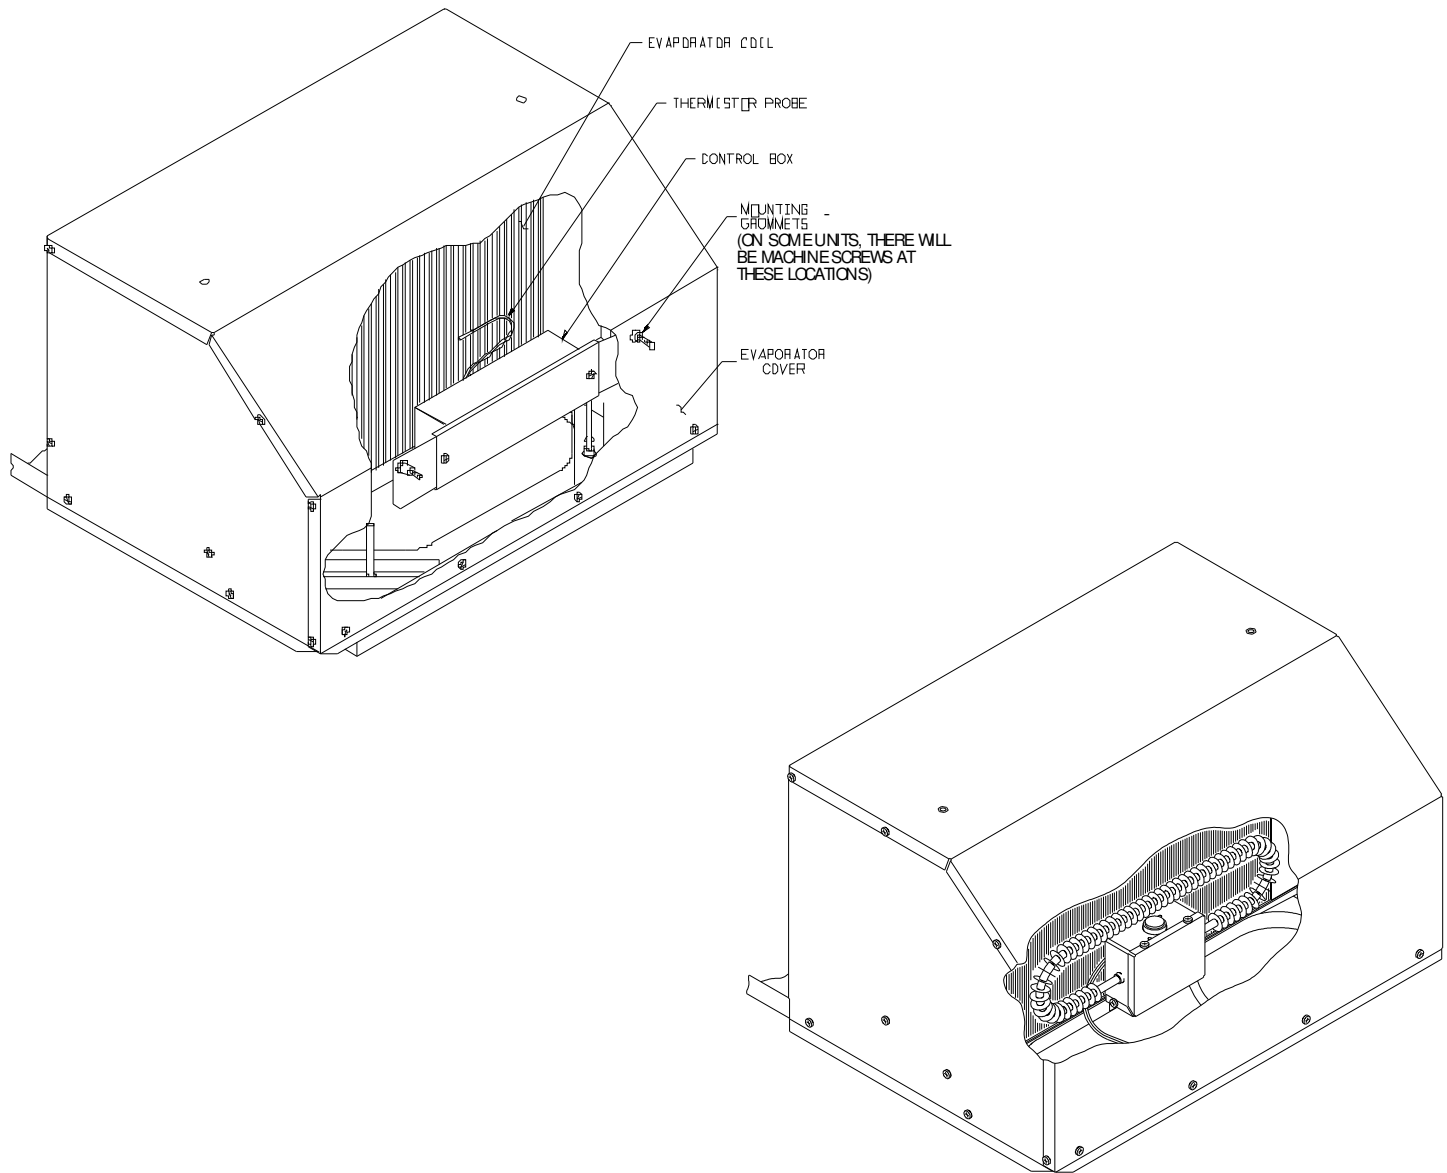
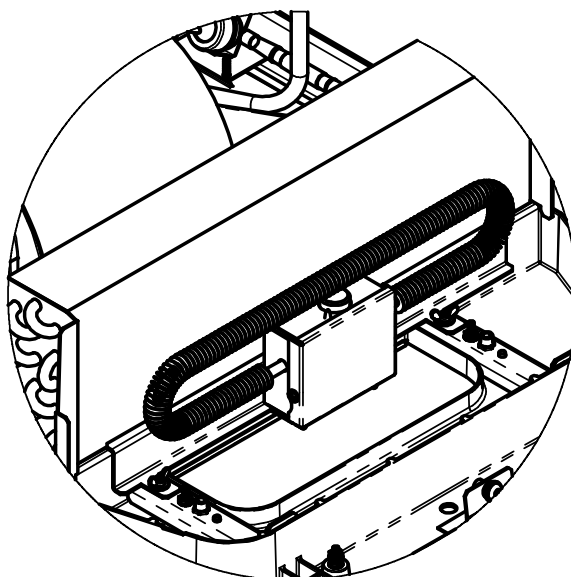

FIGURE 2
FIGURE 5
B. Mounting the Wirebox (See Figure 2)
2. Insert the freeze circuit thermistor probe into the roof top unit evaporator coil. Verify that the probe is located in the coil properly (See Figure 2).
The optional heater assembly may now be installed. Refer to Figures 2 and 3 for the 48000 and 49000 series units. Refer to Figure 5 for the 47000 series units.
Tighten set screw to secure the assembly so as to prevent movement. The 47000 series installation will use wing nuts to secure the heater as in Figure 5.